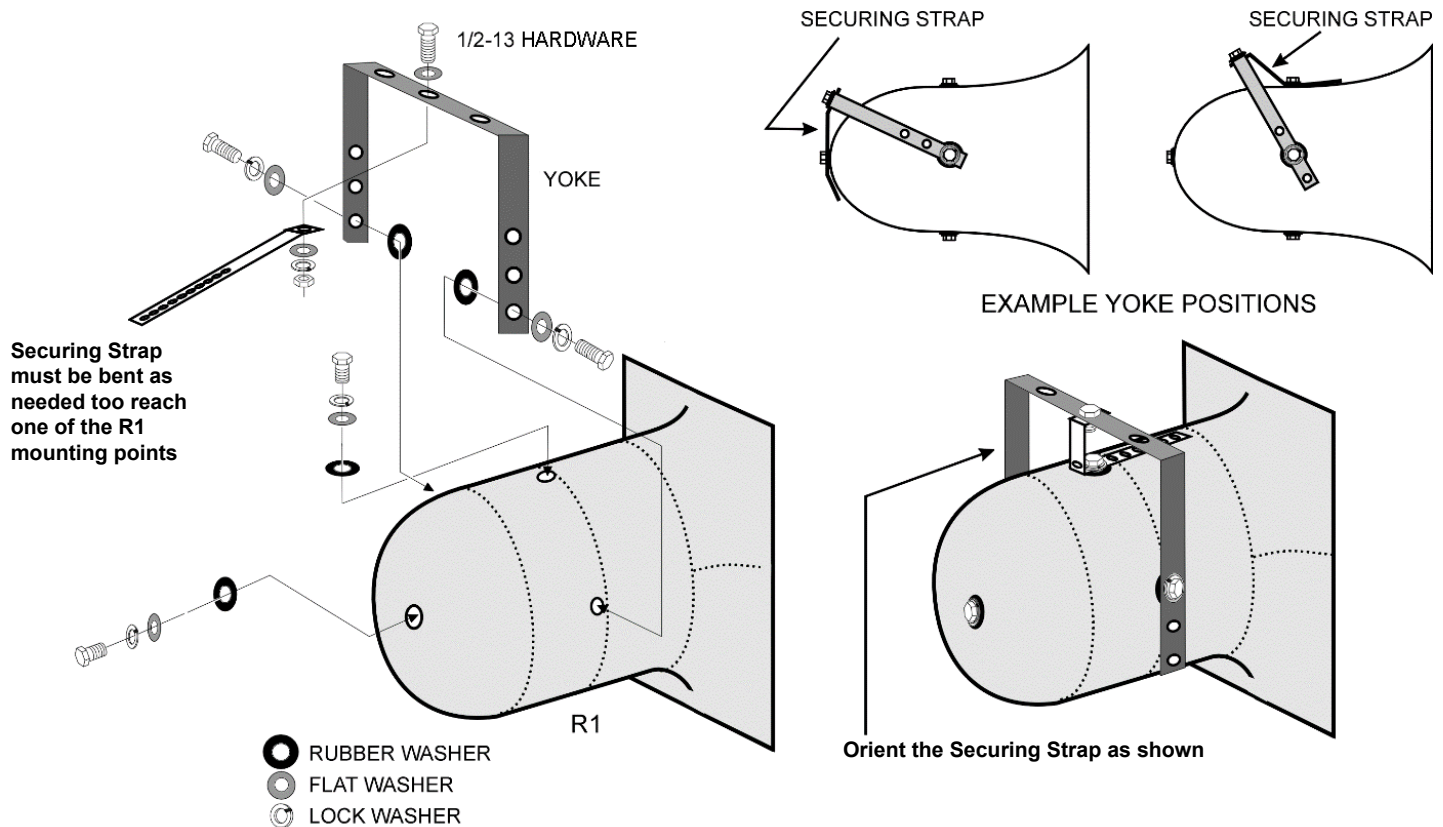

Figure 2. Mount the R1 yoke to the loudspeaker
3. Position the loudspeaker within the yoke making sure that the large rubber washers sit between the yoke and the enclosure. Attach the yoke with the same hardware just removed as shown in Figure 2. Tighten only enough so as to allow the yoke to move. The rubber washer has a 7/16 in. (11 mm) hole so it fits quite snugly around the mounting bolts to form the weather seal for the R1 mounting hole. It also provides some friction to help hold the yoke in position until completely secured.
4. Mount the R1 and its attached yoke to the structure that will support it. If the center hole on the yoke crossbar is used as one of the yoke mounting points you need to attach the Securing Strap to this hole at the same time you mount the yoke to the structure. Position the single hole end of the Securing Strap on the underside of the yoke crossbar. and attach as shown in Figure 2.
5. After properly securing the yoke to the structure, adjust the final aiming angle of the R1. Once the aiming angle is set, carefully bend the Securing Strap towards the nearest mounting point on the R1 so that one of the series of holes in the Strap lines up with the selected mounting point. This may involve forming the strap into a "U" shape (shown in Figure 2) to reach one of the remaining side mounting points or the rear mounting point.